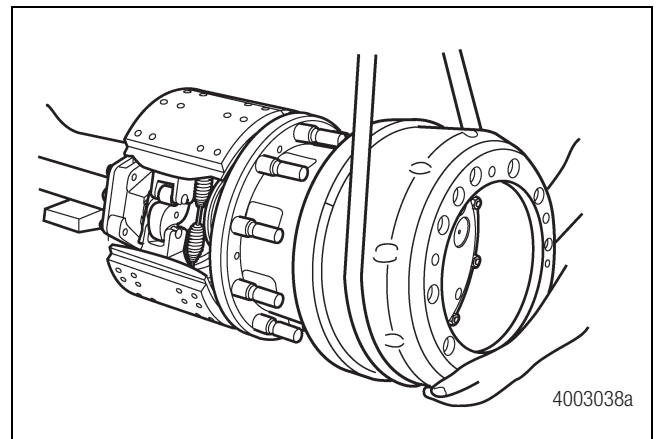

Figure 3.2
7. Use a lifting device to remove the brake drum. Figure 3.2.